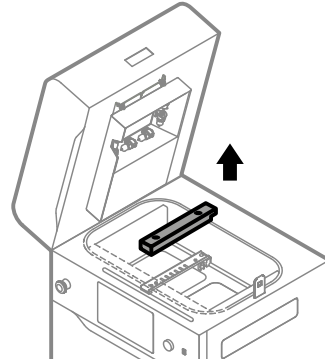

Fig. 13.17 Remove the black Recoater cover.
9. Gently remove the black cover from Recoater (fig. 13.17).